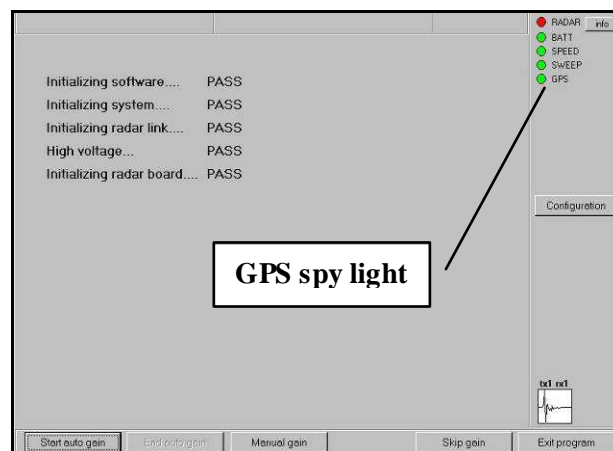

Fig. C. 6 - GPS spy
Step 6 Correct functioning of the GPS and its communication with the SRS_PLUS system is indicated by the GPS spy light in the acquisition window; when the light is green, the GPS is correctly connected and functioning; when the GPS is red, either the connection between the GPS and SRS_PLUS systems has not been correctly made or the GPS is switched off (see picture Fig. C. 6).